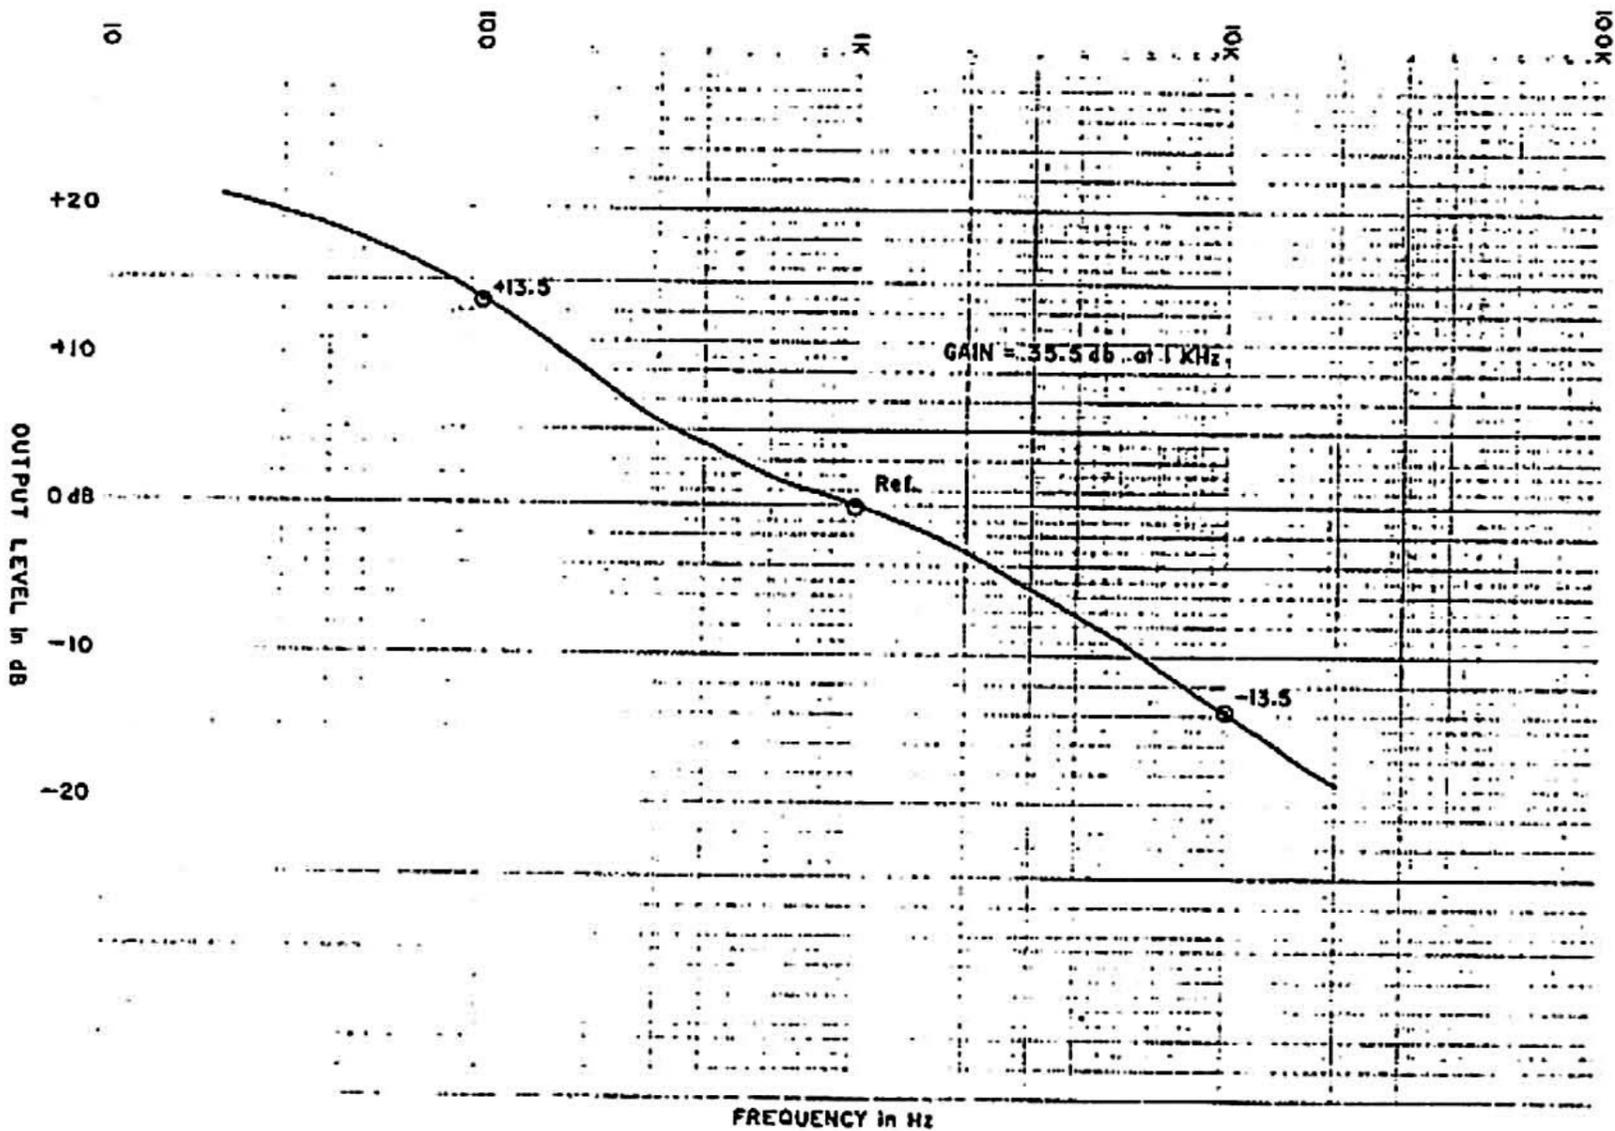

Figure 6-5. Phono 1 Response
C) Referring to Figure 6-5 below, verify that the output signal levels are within  $\pm 0.5$ dB of the values indicated at each of the test points (circled). Adjust input frequency and repeat until all 3 test points have been verified. Table 6-5 lists the acceptable ranges.